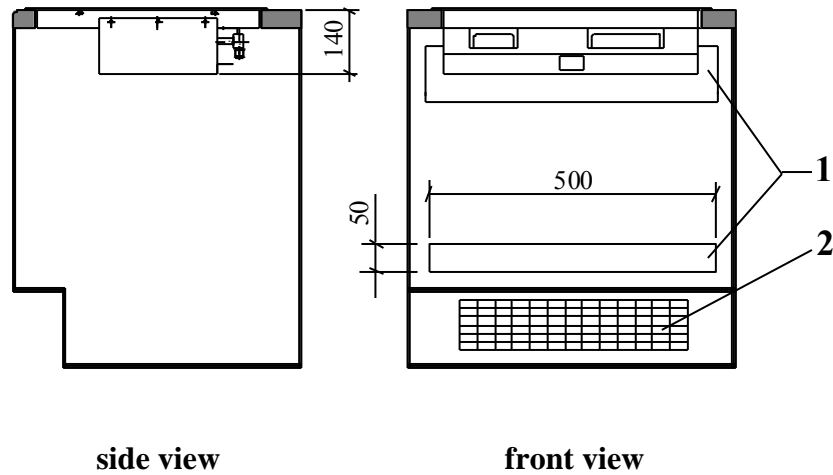

Fig. 5 Chart of 8ssembly
- If the kitchen cabinet has a back wall, it is absolutely necessary to cut out ventilation openings in it, as shown **on the drawing.fig. 5**,